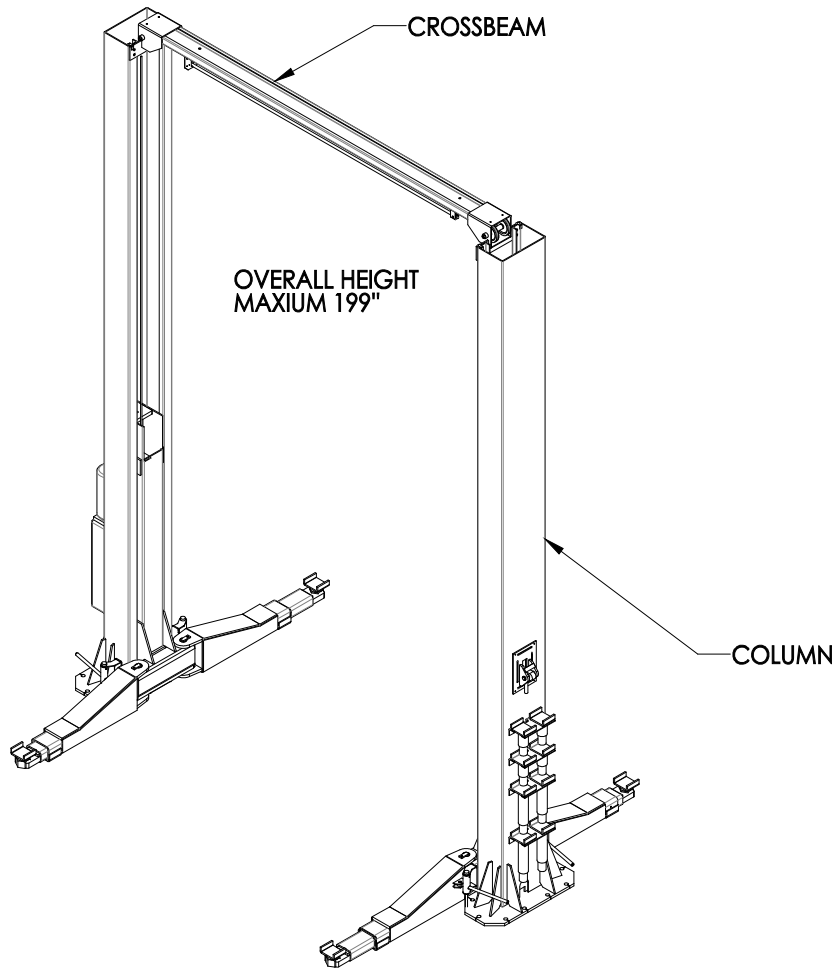

FIG. 2
3. **VERTICAL AND HORIZONTAL PROFILE INSTALLATION** (See Fig. 2)